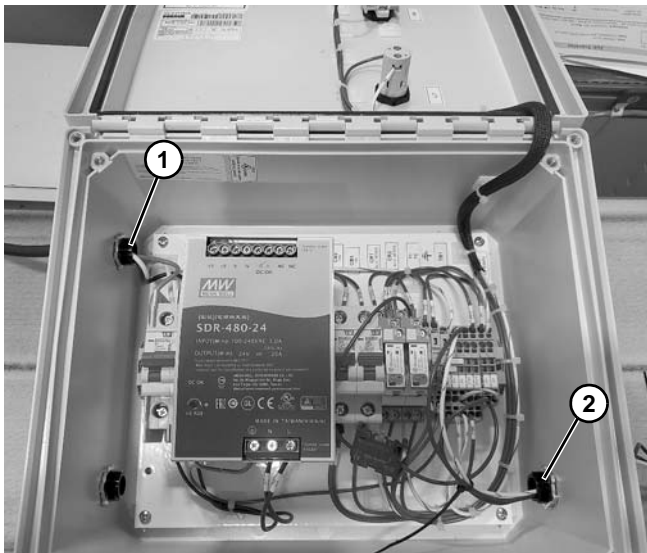

Figure 10
- (Figure 10, item 1) 120V AC in
- (Figure 10, item 2) 24 V DC out